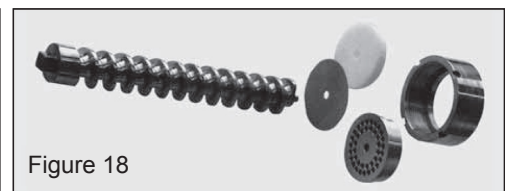

Figure 18
- Disassemble and wash the movable parts (Figures 18 - 19) and clean the machine (see maintenance section).
You have to properly clean all the elements which are in contact with the product (Figures 18 and 23) protection lid, pool, mixer, worm screw, drawplate, filter, ring nut and knife, when the product is still soft. The moving parts have to be disassembled as follows: